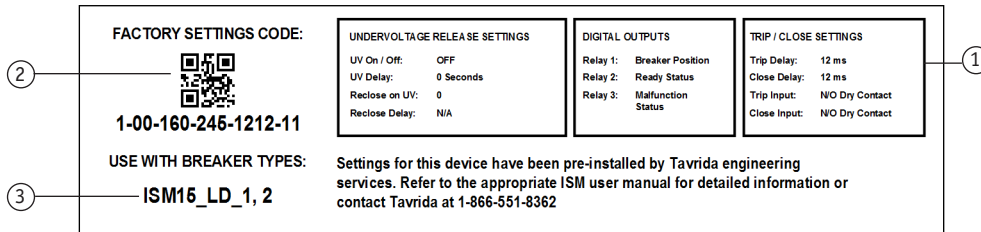
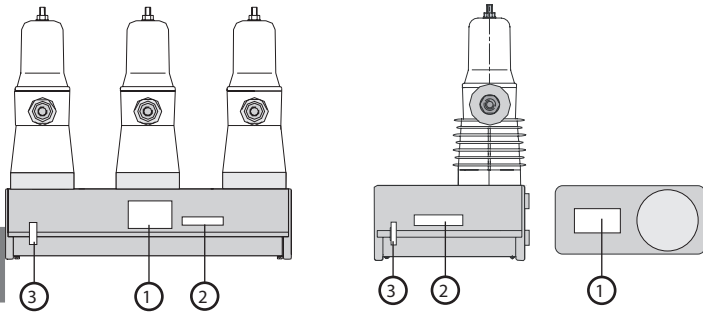
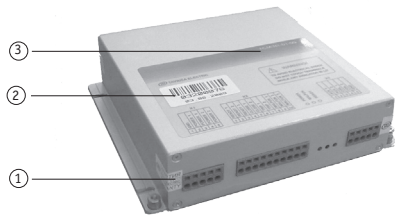

Figure 18
Figure 19
Figure 20
- Damage to the seals (Figure 19, Figure 20)
The CM_16 has an additional label for factory programmable settings (Figure 18); see page 31 for detailed information on the settings functions.
Arrangement of the labels (Figure 18, Figure 19):